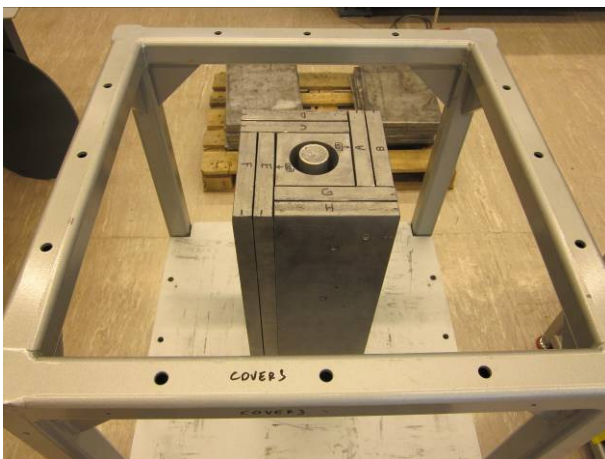

Figure 8: Positioning small lead plates.
2. Place small plates A, B, C, D, E, F, G and H as in Figure 8 using screws provided. The length of the screws is written on the plates. Again, pay attention to the orientation of the plates with respect to each other and to the frame.